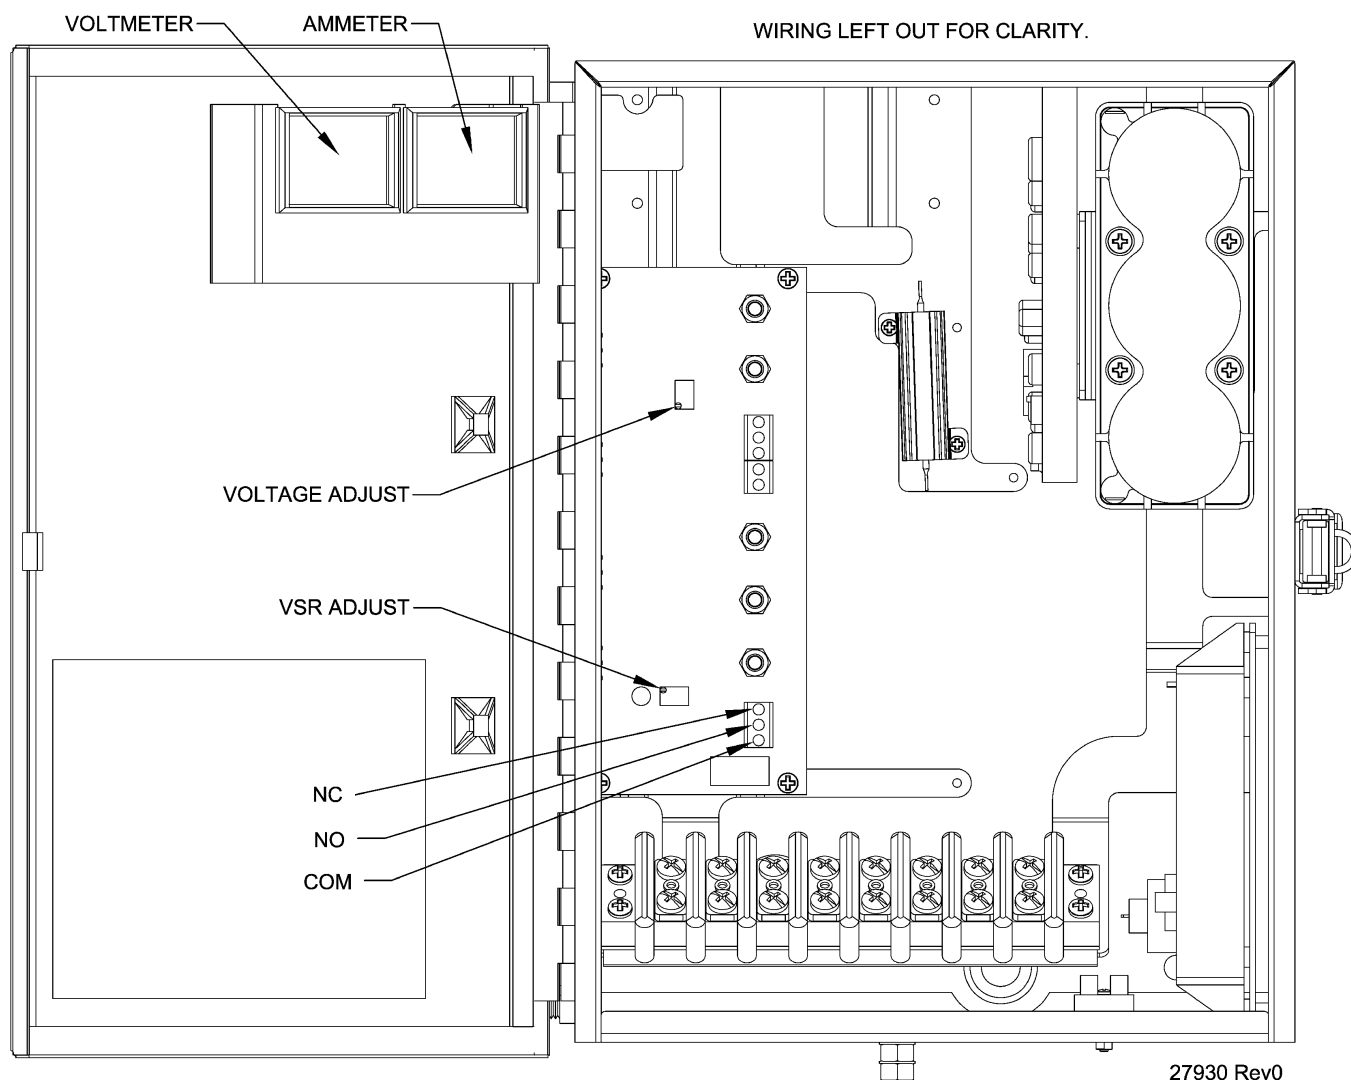
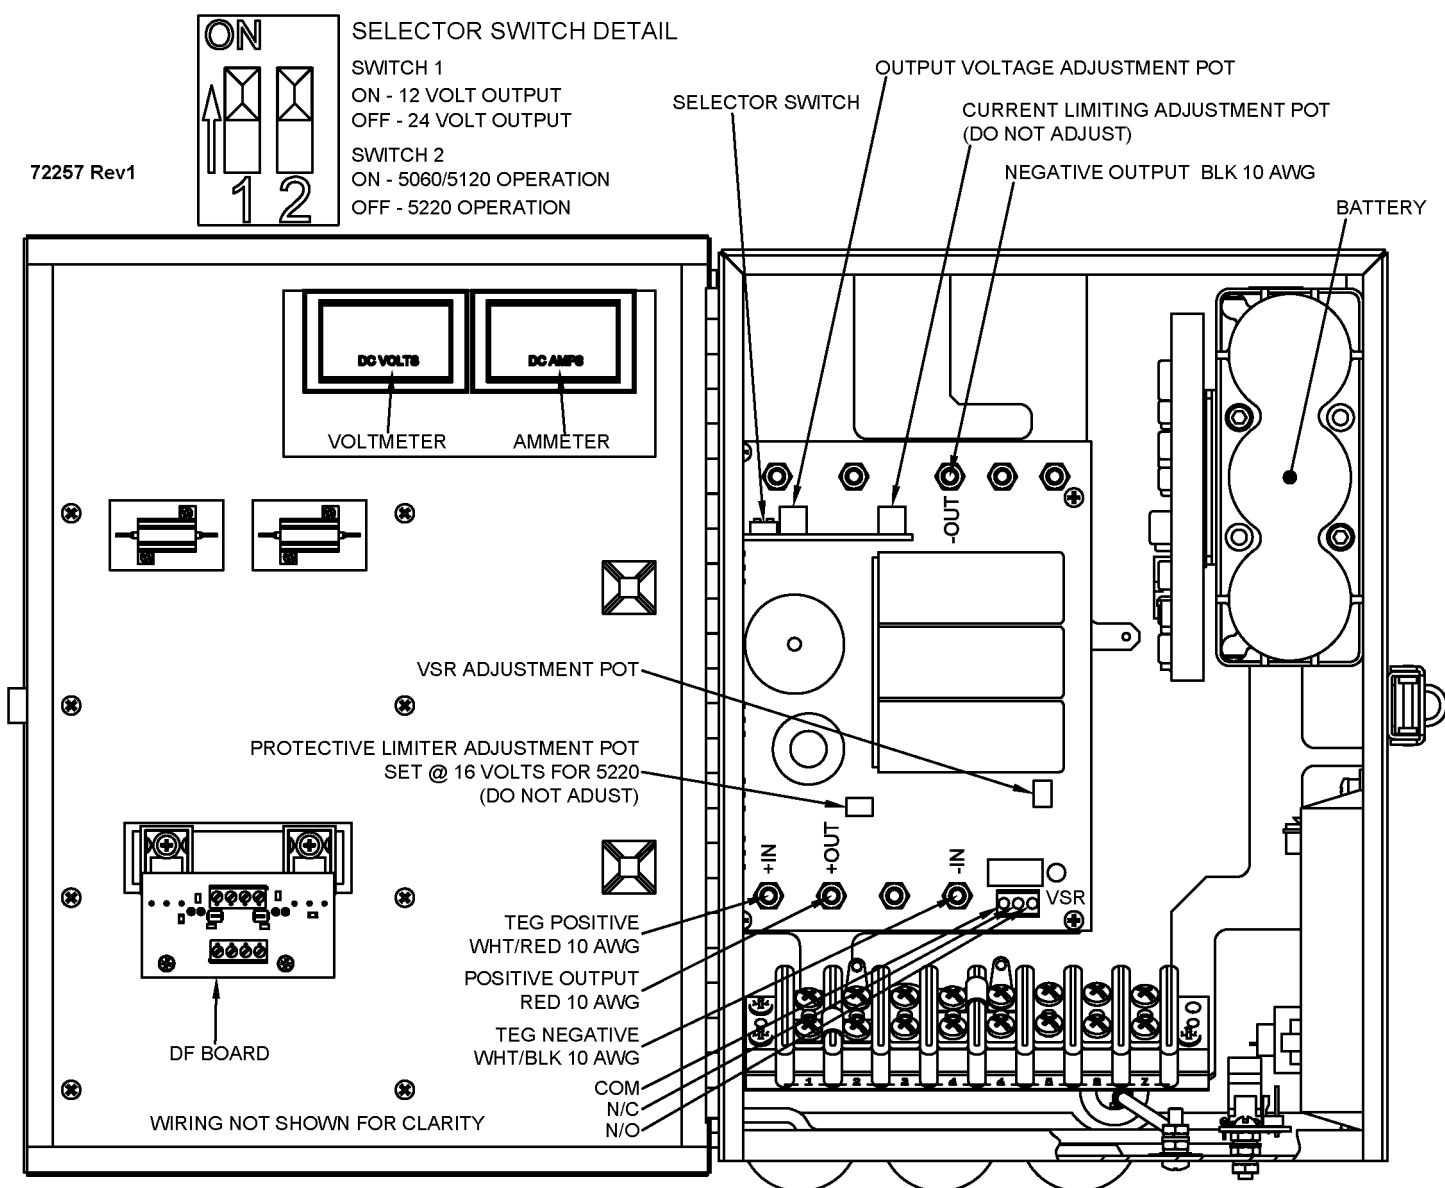

Figure 6 – 220-Watt Limiter Assembly
Figure 7 – 220-Watt L/C Assembly
The minimum requirement for the 5220 is a limiter operating at a nominal voltage of 14 V. This limiter is a shunt-type voltage limiter that regulates the output voltage of the generator. The main components of the Limiter are shown in Figure 6, and explained below.
**Voltage Sensing Relay:** Voltage Sensing Relay (VSR) provides a set of contacts to indicate an alarm condition when the output voltage drops below a preset minimum. Low voltages, due to overloads, lack of fuel or a faulty generator, are detected by a voltage sensing circuit incorporated into the voltage limiter. When a low voltage condition is detected, the Voltage Sensing Relay (VSR) with connections NC (normally closed), NO (normally open) and COM (common) can be used to trigger an alarm or other processes. When the generator is above the trip voltage the connection between NO and COM is closed and the connection between NC and COM is open. If the generator is below the trip voltage, then the connection between NO and COM is open and the connection between NC and COM is closed. The trip voltage is adjusted by the pot labeled VSR adjust on the VSR board as shown in Figure 6.
A 220 W Limiter/Converter (L/C) is available for use with the model 5220 TEG. It is intended for use with model 5220 applications requiring nominal 24 VDC output. It consists of two separate circuits operating together. The first is a shunt-type voltage limiter that regulates the output of the generator. The second circuit is a DC-DC converter that switches the input voltage to the customer's desired output voltage. It includes overload, short circuit and reverse current protection, as well as a set of low voltage alarm contacts. The main parts of the 220 W L/C are shown in Figure 7.
Low voltages due to overloads, lack of fuel, or a faulty generator, are detected by a voltage sensing circuit incorporated into the voltage limiter. When a low voltage condition is detected, the Voltage Sensing Relay (VSR) with connections NC (normally closed), NO (normally open) and COM (common) can be used to trigger an alarm or other processes. When the generator is above the trip voltage, the connection between NO and COM is closed. If the generator is below the trip voltage, then the connection between NO and COM is open, and the connection between NC and COM is closed. The trip voltage is adjusted by the pot labeled "VSR Adjust" on the VSR board as shown in Figure 6 or Figure 7.